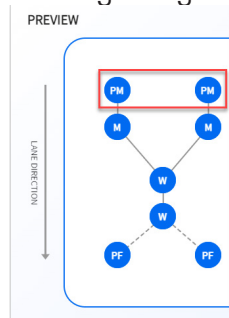

Fig.7.4
- The PREVIEW graphic is dynamic and reflects the store's lane layout as soon as changes are made. (If in a store with an existing Timer system, the layout should be the same as it was previously was but with a new PM dot (solid blue) added to the beginning of the graphic, as shown in Fig. 7.4.